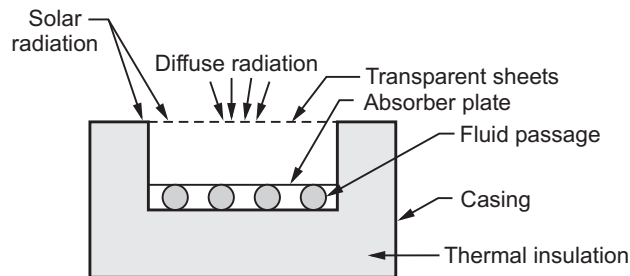

**Fig. 1.1 : Solar thermal energy harvesting**
- Fig. 1.1 shows the schematic diagram of solar thermal energy harvesting.